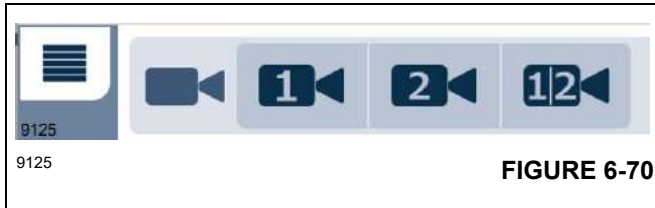

FIGURE 6-70
- Select and confirm a symbol (Figure 6-70) to switch over between the cameras.